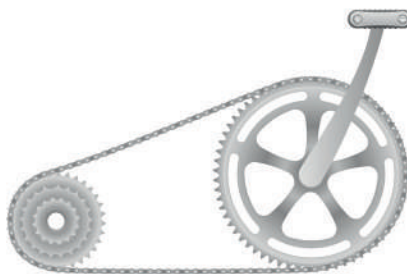

Fig. 8
- (b) **Fig. 8** shows part of the gear system the bicycle uses.